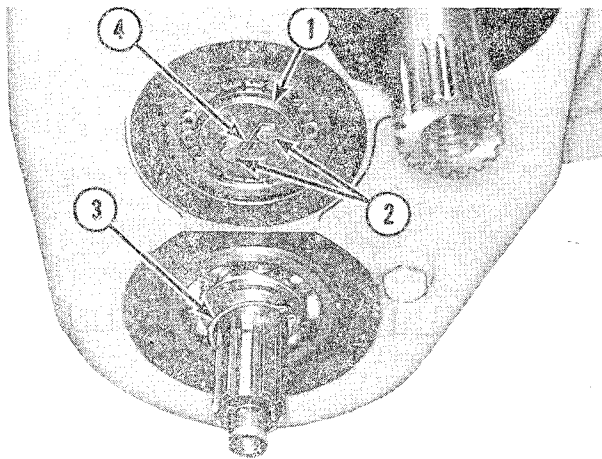

Figure 4-25
Remove retaining washer (1, Fig. 4-25) from 2nd and 3rd speed shaft by removing lock wire (4) and cap screws (2). Remove retaining ring (3) from output shaft.